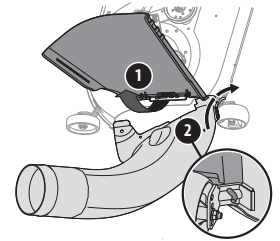

Figure 17
- With the tractor's discharge chute raised up and held open (1), install the boot by placing the boot mounting rod into the hole provided in either your deck wheel bracket or boot mounting tab (2), as shown in Figure 17.